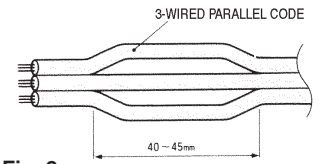

Fig. 2
2. Slit the 3-parallel wire cable as shown in Fig. 2.